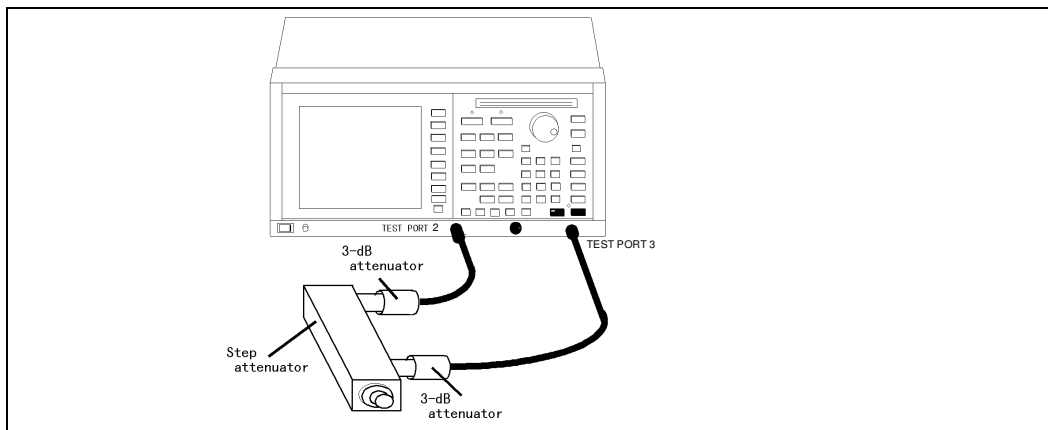

Figure 10-37 Connections for TEST PORT 4 Measurement for Dynamic Level Accuracy
- (1) Connect two 3-dB attenuators and step attenuator using the RF cables between TEST PORT 2 and TEST PORT 4 shown in Figure 10-37.